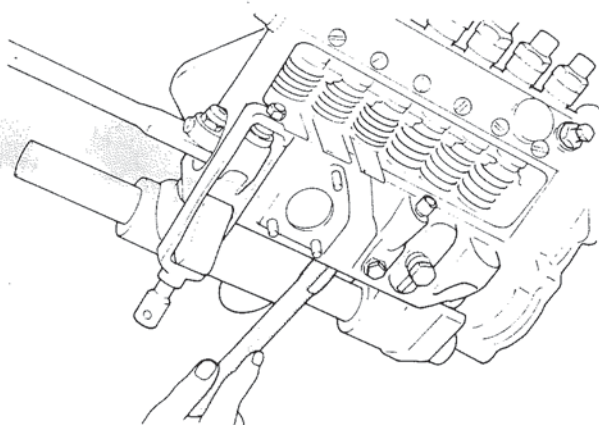

Figure 45. Inserting Tappets.
A. Insert tappets through camshaft bearing hole using tappet clamp, Special Tool No. 95905-02030. Figure 45.